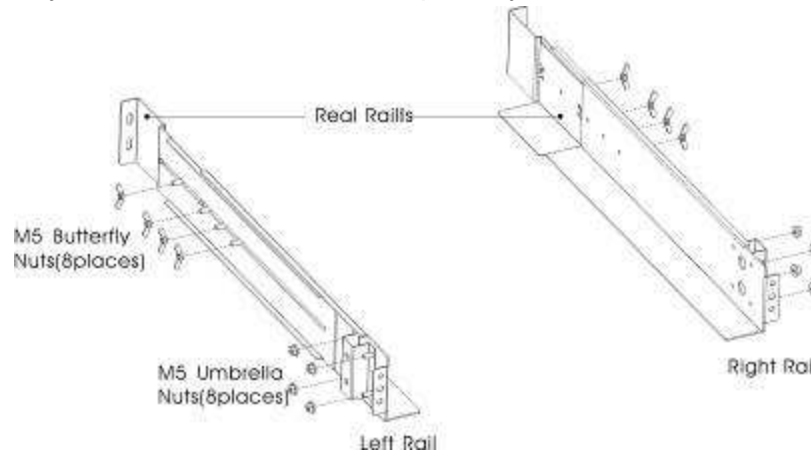

Figure 4 Securing the Rails
1. Assemble the left and right rails to the rear rails as shown in Figure 4. Do not tighten the screws. Adjust each rail size for the depth of your rack.
3. Tighten four M5 Umbrella Nuts in the side of rail assembly (see Figure 4).